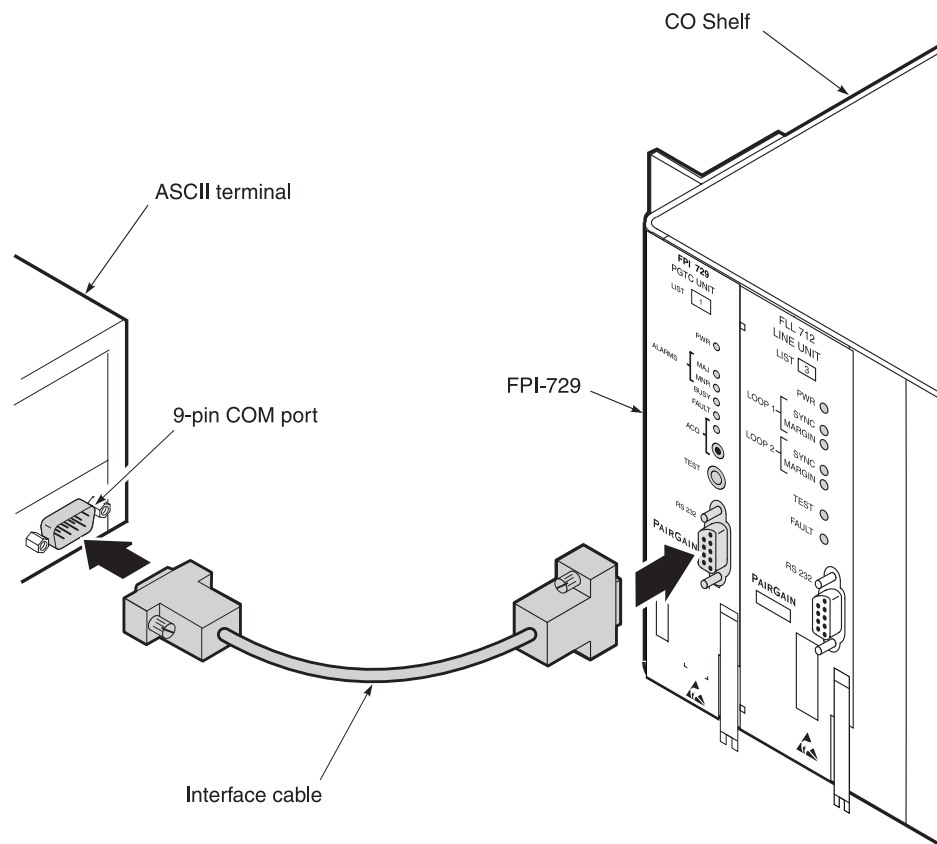

Figure 27. Connecting an ASCII Terminal to an FPI-729 or FAU-728 List 2 Unit
- If the PG-Flex system has a FPI-729 List 1 or FAU-728 List 2 installed, connect the RS-232 cable to the either the alarm unit or the PGTC interface front panel (Figure 27).